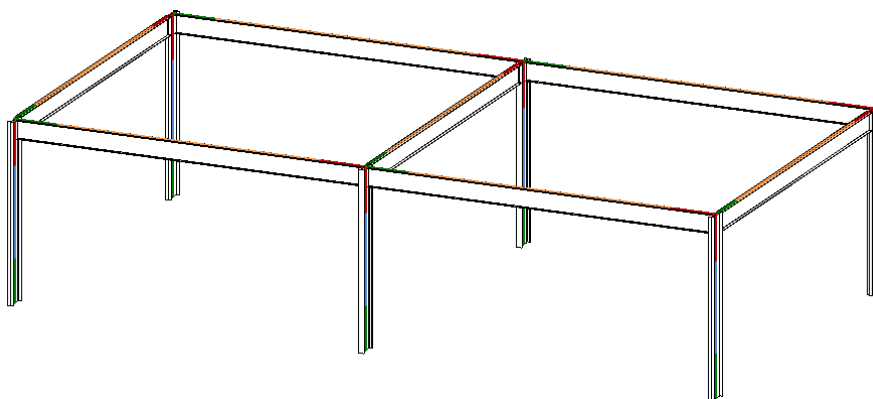
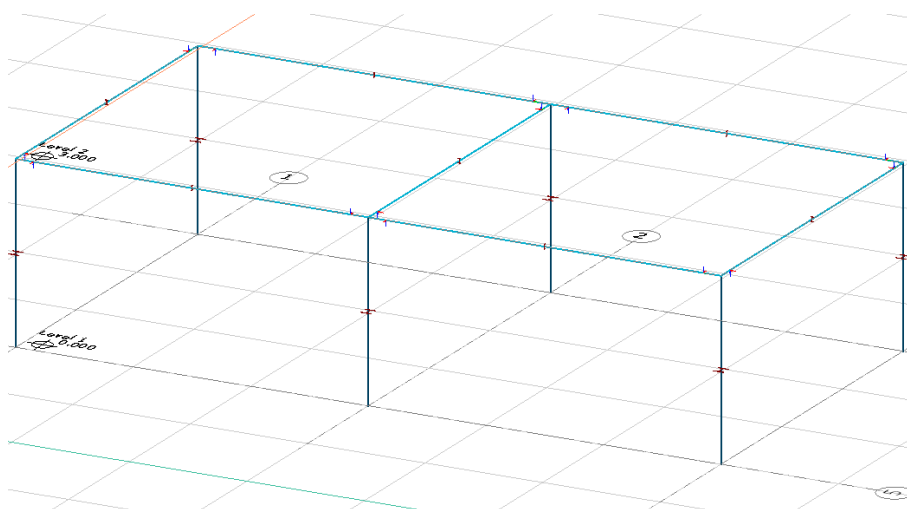

Figure 6-1
Figure 6-2
1. In the first step, model shown in Figure 6-1 has been exported from Revit to struxml file and opened in FEM-Design (Figure 6-2).